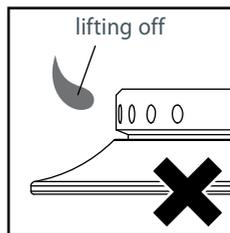

Fig. 3
- With the product isolated from the electrical supply, ignite the burner using a match. The flame will probably be lifting off the burner (see Fig. 3).